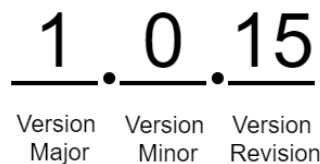

Figure 6-2: Example FW Version Format
- Bits 32 to 55 of the value contain the application revision numbers which define the FW version. The FW version is reported in the format as shown in Figure 6-2, which is shown using the example FW v1.0.15 (value 0x 01 00 0F).
- Bits 8 to 31 of the value contain the LoRaMAC version numbers. The format is the same as shown in Figure 6-2. This number is not to be confused with the LoRaWAN specification version according to the LoRa Alliance standards. The LoRaMAC version number is the version of the LoRaMAC layer of the FW developed by TEKTELIC.
- Bits 0 to 23 of the value contain the BLE stack version numbers. The BLE stack is the SW published by Bluetooth and not developed by TEKTELIC. The version is reported in the format as shown in Figure 6-2.